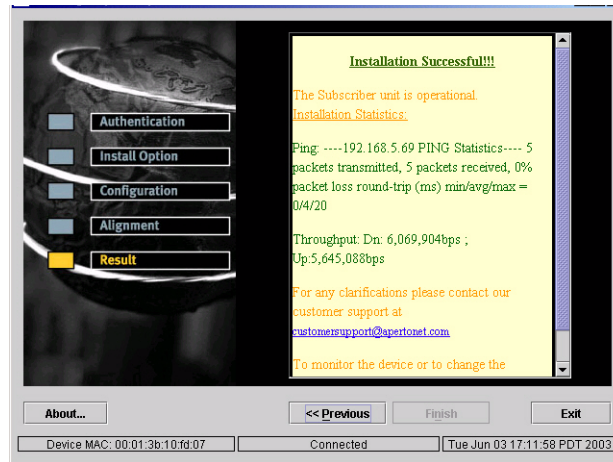

Figure 5-20 Test Results Window
4. The Test Results window shown in *Figure 5-20* will be displayed, and the test results text file will be updated.
4. After configuration has been completed, the AIM will reset the PacketWave 200, enable audio auto-alignment, and display the Provisioning Results window similar to that shown in *Figure 5-20*.